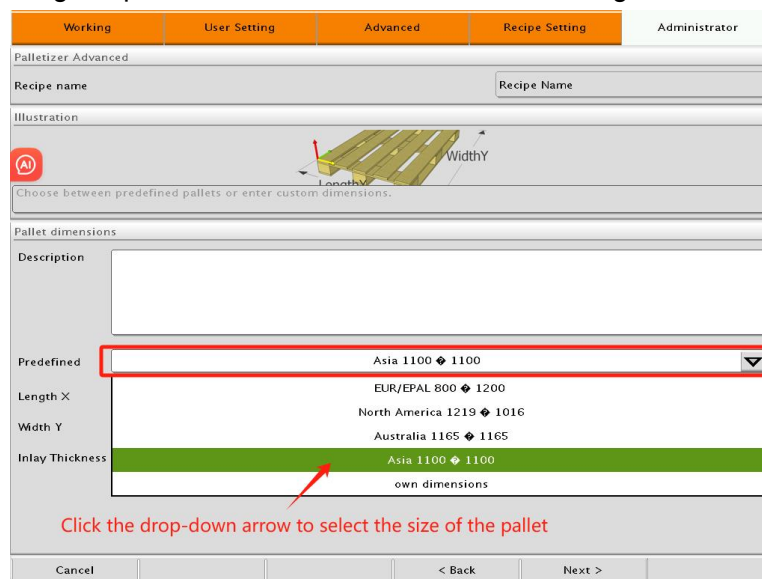
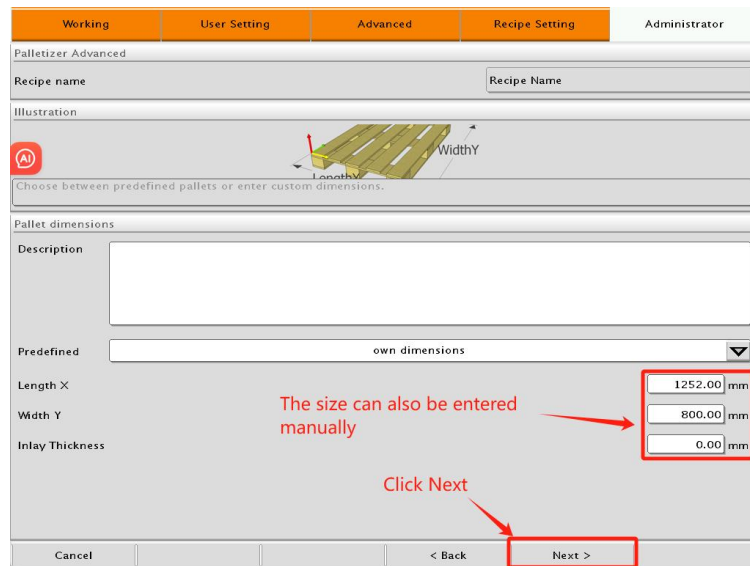

Figure 4-6
Figure 4-7
Click on the "drop-down arrow" to select the length (X) and width (Y) of the customized pallet size [Figure 4-6] or manually enter the length (X) and width (Y) of the pallet [Figure 4-7], after entering the pallet dimensions, click on the "Next Page" to enter the interface.